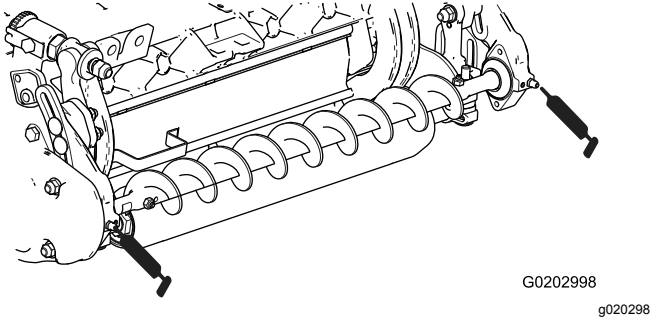

Figure 28
41. Lubricate the grease fittings on each of the roller brush bearing housings with No. 2 general-purpose, lithium-base grease (Figure 28).